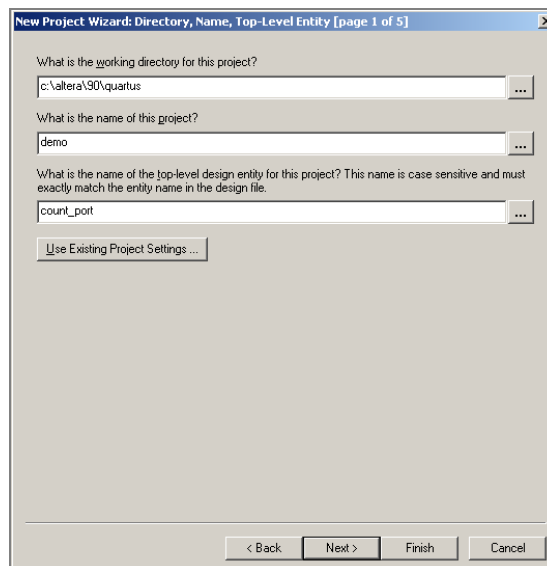

Figure 3: Enter the directory, name of the project and top level entity
4. The “Directory, Name, Top Level Entity” window will appear. Enter the Directory, name of the Project and the name of the Top Level Entity as shown in Figure 3 below. Make sure that the Top Level Entity name matches the exact name of the design file. Click “Next>”